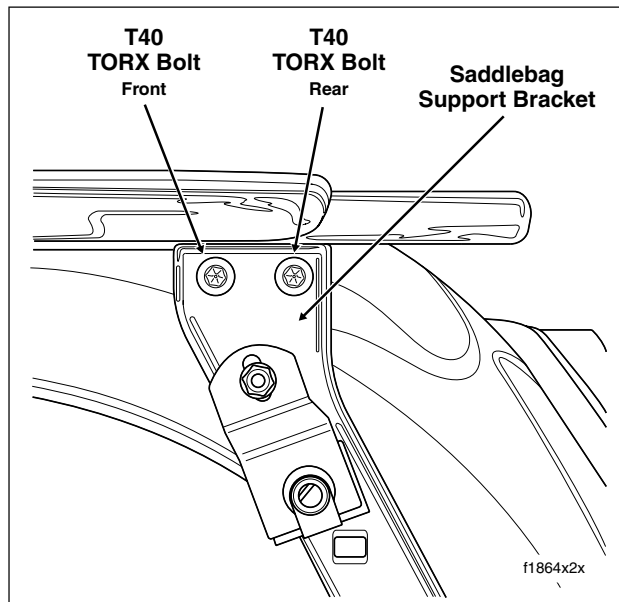

Figure 2-183. Saddlebag Support Bracket Bolts (Left Side View)
11. Using a T40 TORX drive head, remove upper rear bolt from saddlebag support bracket. Repeat step on opposite side of vehicle. See Figure 2-183.
2. Engaging hole of fender rear spacer nut, use a T40 TORX drive head to start upper front bolt in saddlebag support bracket. Repeat step on opposite side of vehicle. See Figure 2-183.